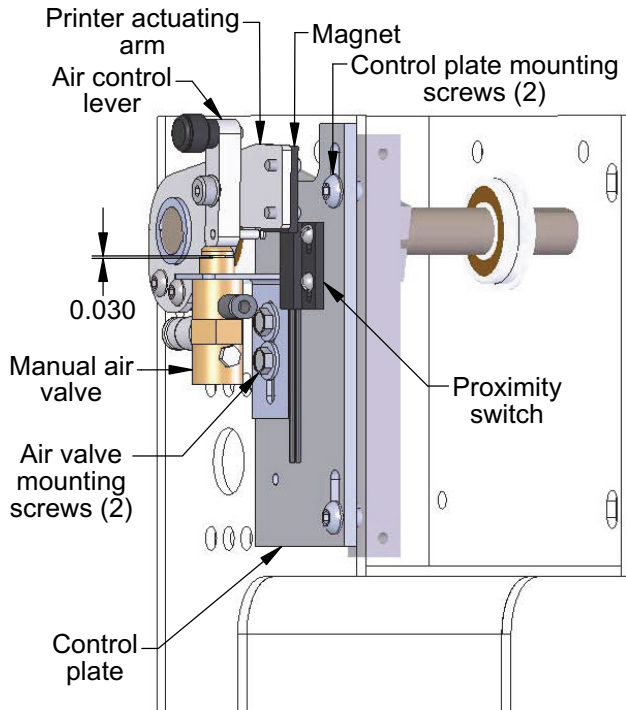

Figure 5.1
A. ADJUST THE ACTUATING SWITCH: Figure 5.1
C. ADJUST THE MANUAL AIR VALVE: Figure 5.1
- 4. With the closer in neutral, slide the mount and valve up toward the operating lever until the distance between the body of the air valve and the head of the piston measures 0.030" (0.8mm) (refer to Figure 5.1).